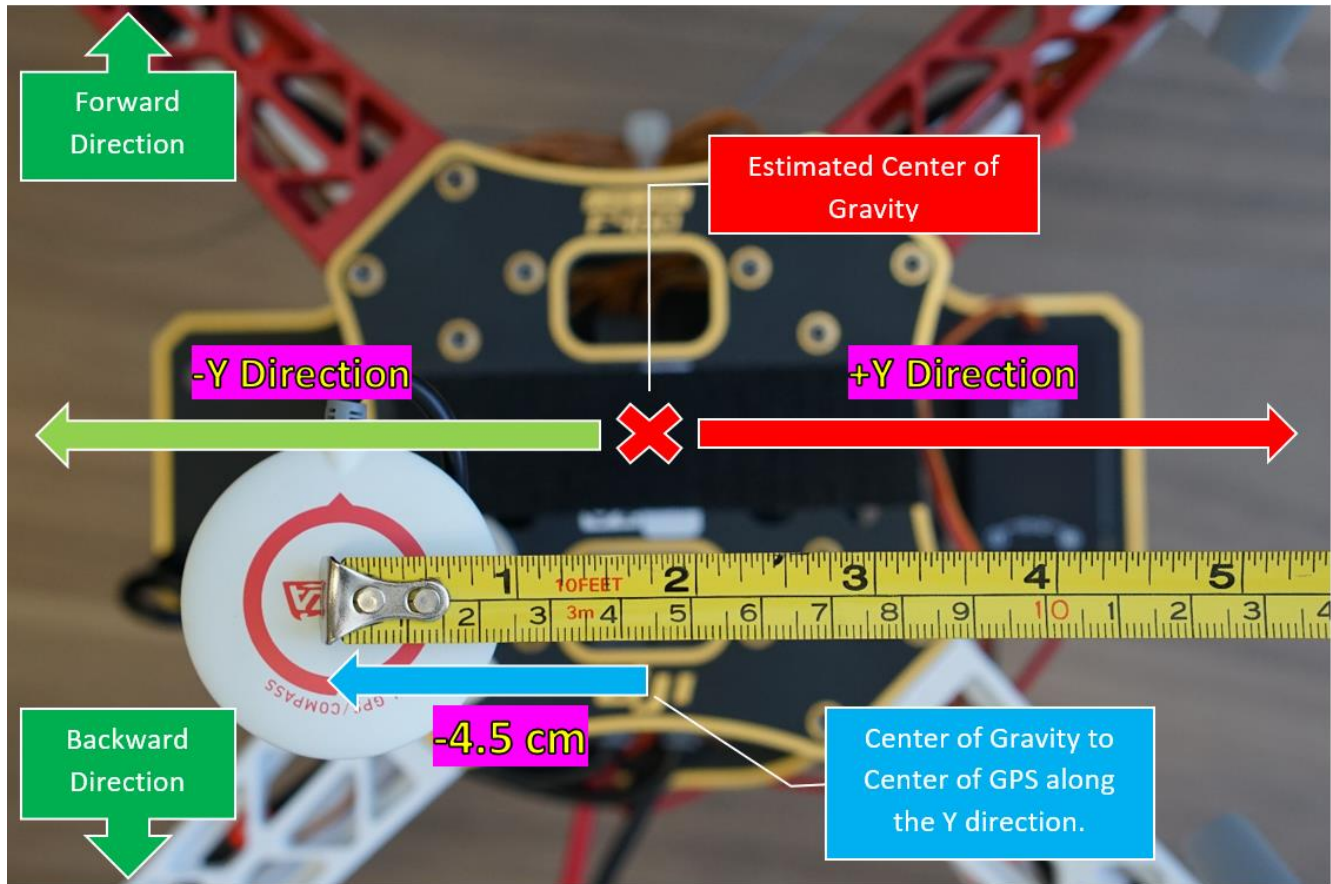

Figure 7: Measuring the Y component.
- a. Figure 7 displays an example of the quadcopter seen from a top-down view.